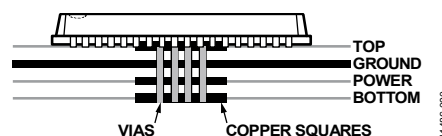

Figure 83. Exposed Pad Layout Example—Side View
- Place a copper layer, equal in size to the exposed pad, on all layers of the board, from top to bottom. Connect the copper layers to a dedicated copper board layer (see Figure 83).